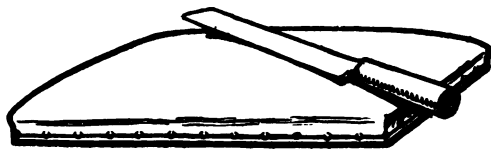

FIG. 86.
**Finishing** and knife are shown at fig. 86. A little powdered bath-brick rubbed into the cushion will make it easier to cut the gold cleanly. The blade of the gold knife should never be touched with the hand, and before using it, both sides should be rubbed on the cushion. A book of gold is laid open on the cushion, and a leaf of gold is lifted up on the gold knife, which is slipped under it, and turned over on to the cushion. A light breath exactly in